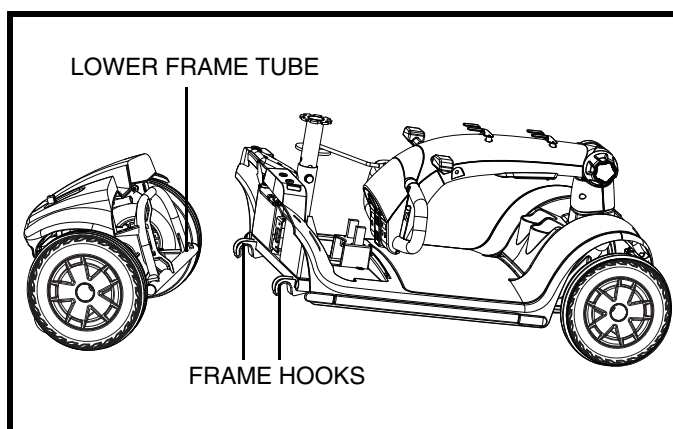

Figure 21. Frame Separation
4. Lift the front section up until the frame hooks of the front section separate from the rear section. **See figure 21.**
5. Slowly separate the two sections. **See figure 21.**
1. Position the front and rear sections of your scooter as shown in **figure 21**.
2. Use the frame release lever to lift the front section as you align the frame hooks of the front section with the lower frame tube of the rear section. **See figure 21.**